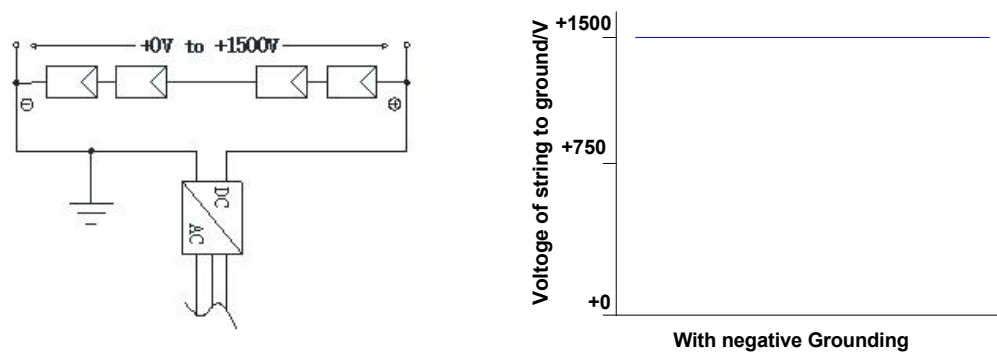

Figure 22 Schematic diagram for grounding potential of the inverter
**7.5.7** If the module is used in high-temperature and high-humidity environment, Bluesun solar suggest the customer configure the inverter which allows negative grounding and contains isolation transformer (as shown in figure 22).